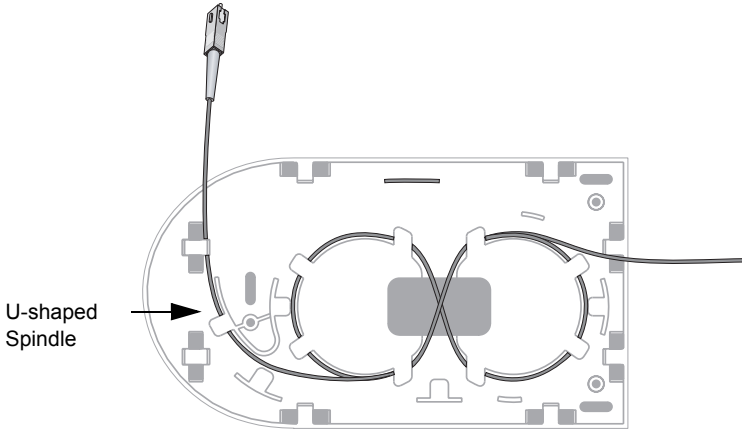

Figure 12. Wrapping the Cable around the Spindles
8. Wrap the cable in a figure eight around the spindles in the center and finally around the U-shaped spindle, as shown in Figure 12.